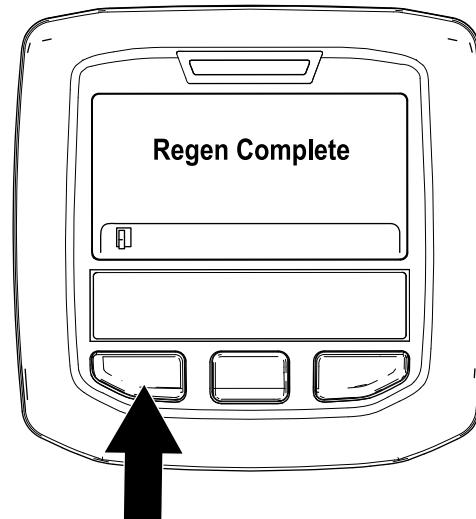

Figure 51
- The parked regeneration is complete when the “Regen Complete” message displays in the InfoCenter. Press the left button to exit to the home screen (Figure 51).